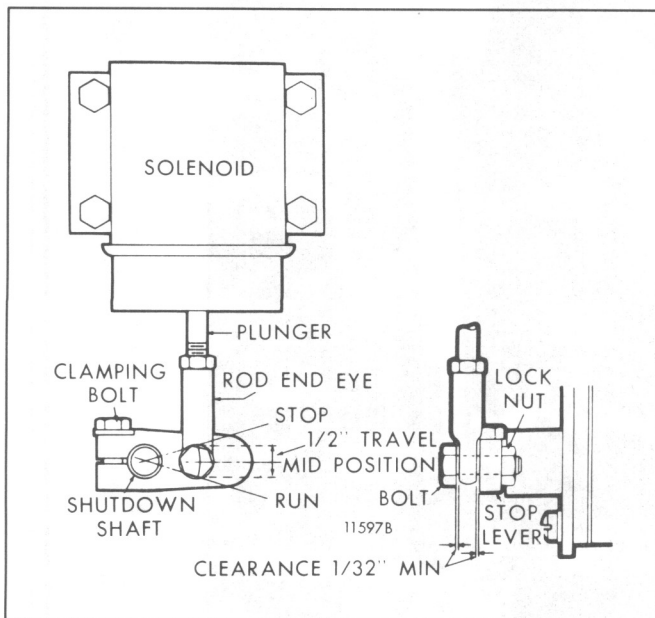

Fig. 7 - Typical Variable Speed Governor Lever Position
1. Remove the bolt connecting the rod end eye (variable speed governor) or the right angle clip (limiting speed governor) to the stop lever (Figs. 7 and 8). Align and clamp the lever to the shutdown shaft in such a way that, at its mid-travel position, it is perpendicular to the solenoid plunger. This assures that the linkage will travel as straight as possible. The solenoid plunger has available 1/2" travel which is more than adequate to move the injector control racks from the full-fuel to the complete no-fuel position and shut down will occur prior to attaining complete travel.